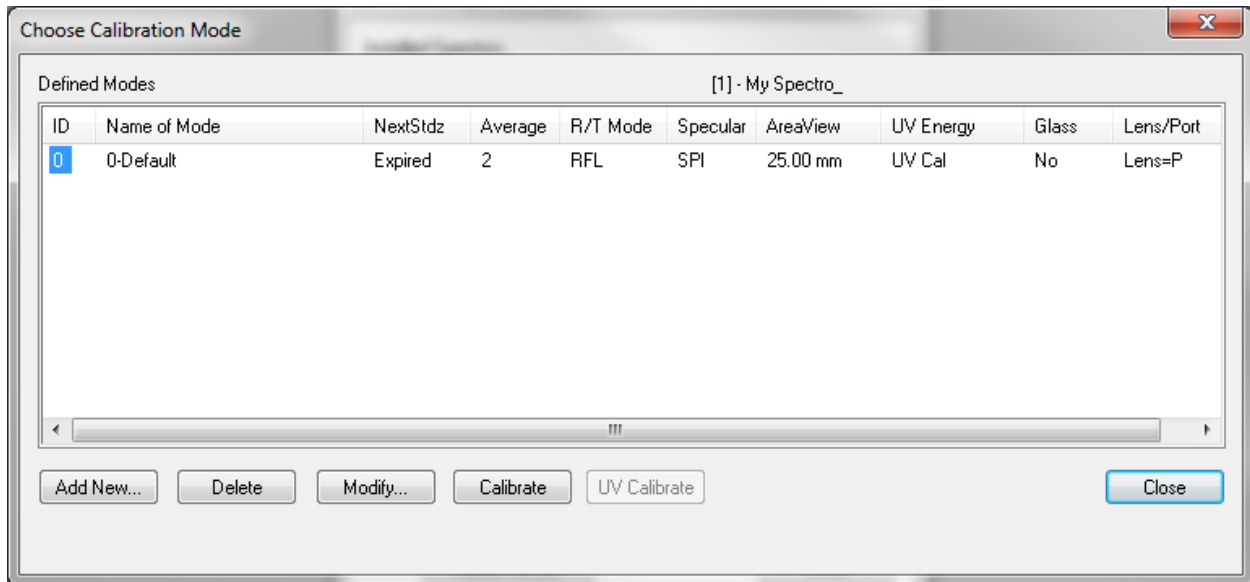

Figure 7 —Choose Calibration Modes
13. Once you have closed the Calibration Mode, the Choose Calibration Mode dialog box will appear, allowing you to create more calibration modes for that instrument (see Figure 7). The default mode just defined should be listed as the only mode. You may define an entirely new mode by clicking on the “Define New” button. You should refer to the documentation provided with your instrument to determine what capabilities your sensor has and what variety of calibration modes you may want to define. (See Spectro under Menu Commands in the Help file for more information about setting the various sensor modes in Color iControl.)